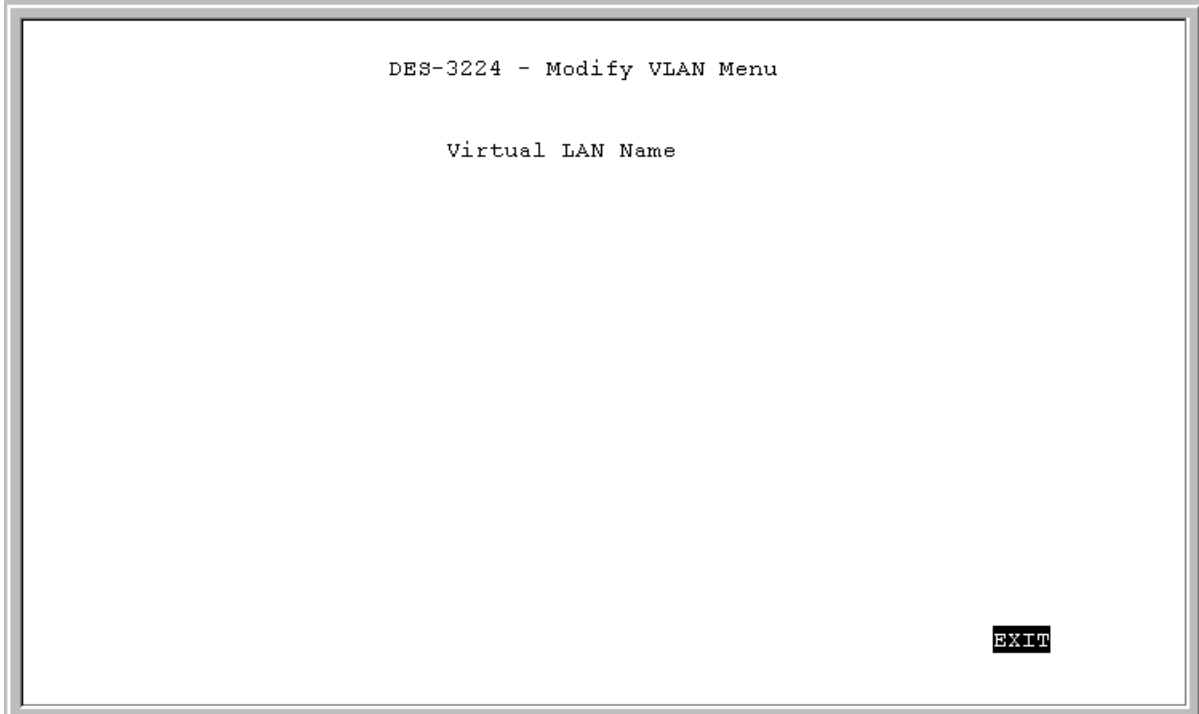

Figure 30: VLAN Modify menu
3. You will see the VLAN Modify menu, displayed in Figure 30. Use this panel to modify a VLAN. VLAN1 is shown as an example.